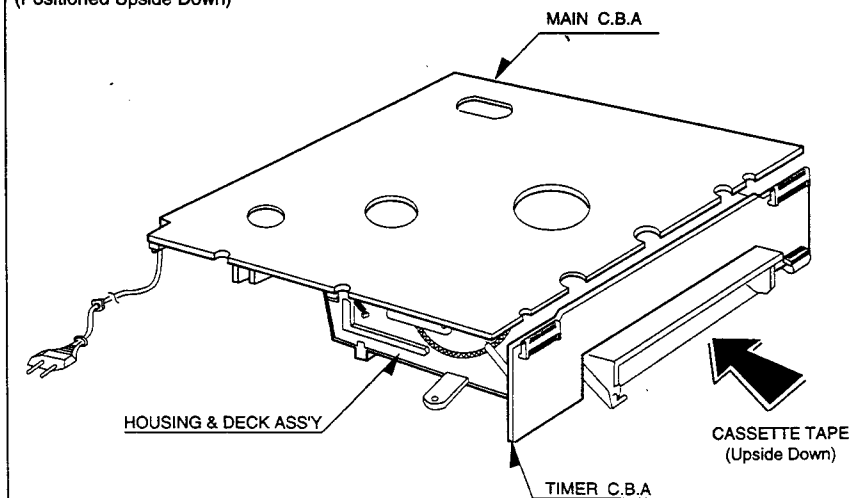

Fig. 2-1
(1) Disassembly Flow
(2) Re-assembly Flow service like Fig. 2-1
(3) To check and replace Electrical parts
- ① Disassemble the unit according to No.1) Disassembly Flow.
- ② Re-assemble the unit according to No.2) Re-assembly Flow.
- ③ Place the unit like Fig. 2-1.
- ④ Check and replace Electrical parts.
- ① Insert Video Cassette Tape inversely like Fig. 2-1 to check and replace defective parts.
- ② In disassembling and reassembling, be careful not to damage CST switch.